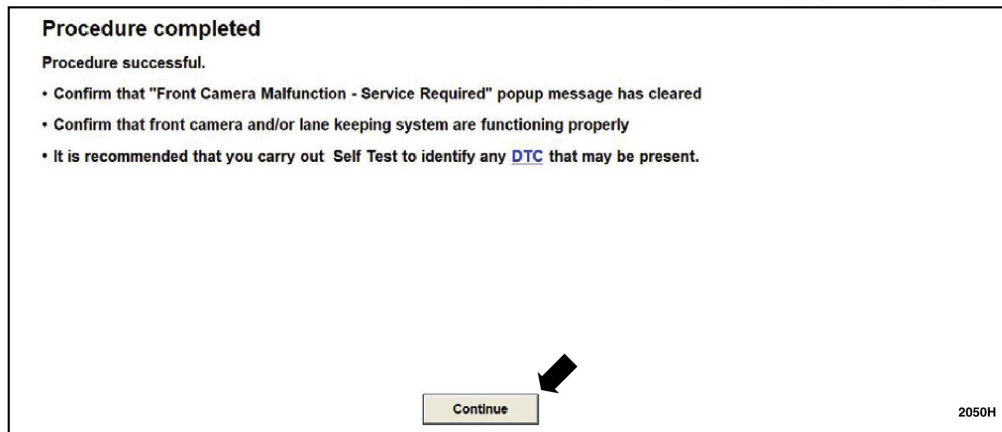

FIGURE 7
15. Procedure completed, select "Continue". See Figure 7.